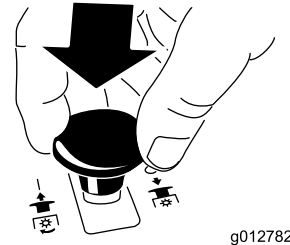

Figure 11
- Push the blade-control switch (PTO) down to the Off position (Figure 11).